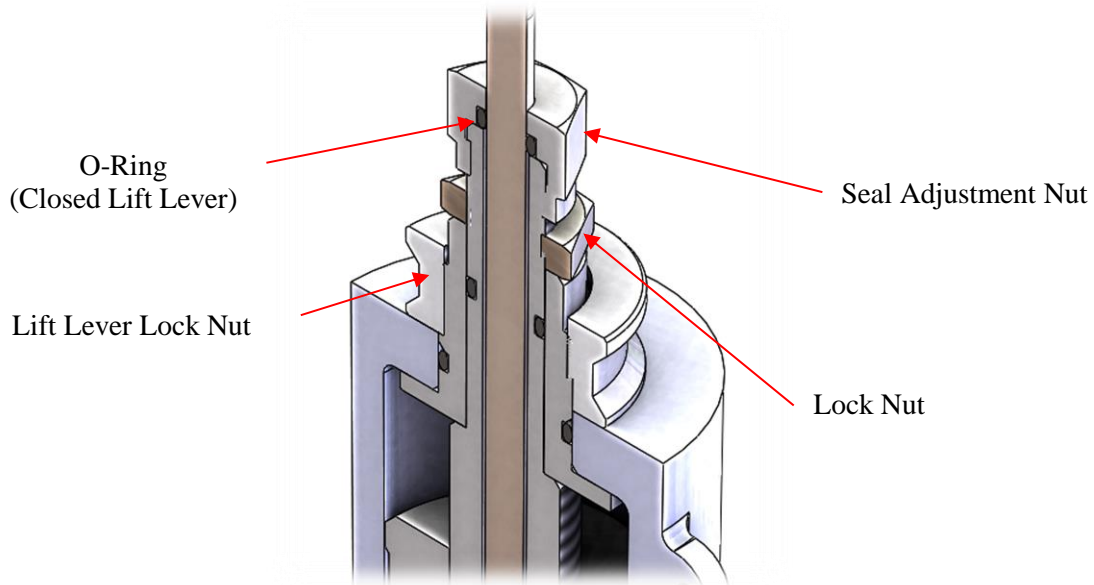

Figure 26: Removed Lift Lever Cap
6. Unscrew and remove the seal adjustment nut. See Figure 26.